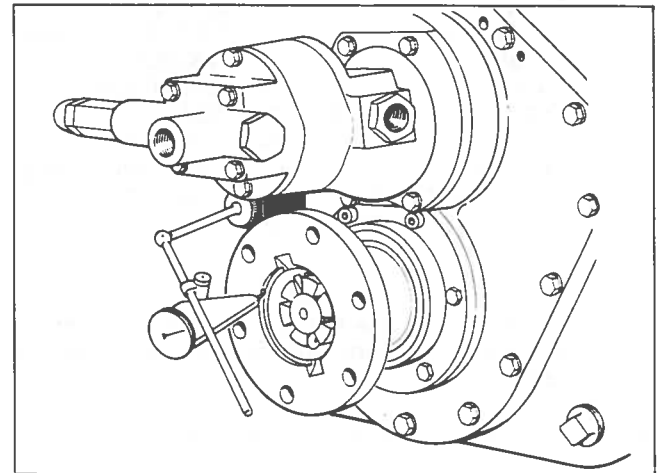

Fig. 39. Checking Pilot Ring Bore Diameter for Trueness.
15. Check pilot ring bore diameter as shown in Fig. 39. Deviation must not exceed .003".